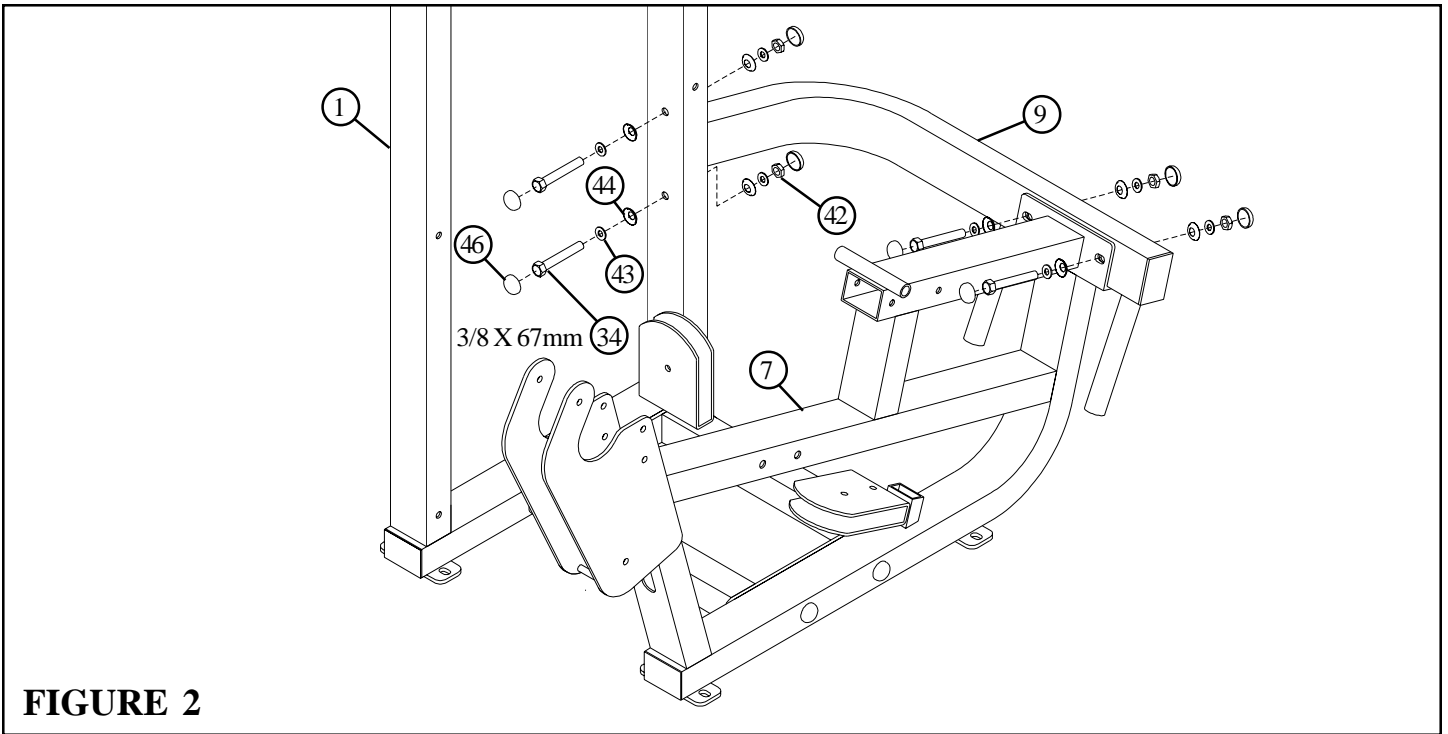

FIGURE 2
- **LOOSELY** assemble the UPPER SUPPORT (9) to the FRAME (7) and the TOWER (1) using eight RH CAPS (46), four 3/8 X 67mm BOLTS (34), eight 3/8" SAE WASHERS (43), eight 3/8" RH WASHERS (44) and four 3/8" LOW HEIGHT LOCK NUTS (42) as shown in FIGURE 2.